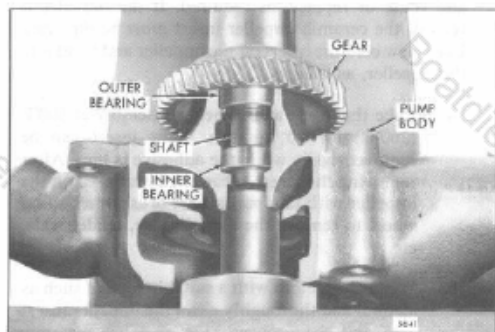

Fig. 13 - Pressing Gear on Pump Shaft using Tool J 25257
5. With gear installer J 25257 positioned on the impeller end of the shaft, place the gear between the shaft and the ram of the press (Fig. 13). Press the gear on the shaft so it is flush with the end of the shaft. Tool J 25257 will hold the shaft vertically to ensure the gear is pressed squarely on the shaft.